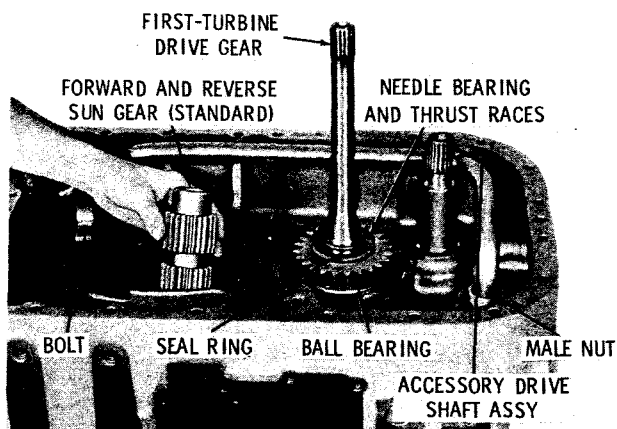

Fig. 5-16. Removing standard speed, forward- and reverse-range sun gear
(4) If the transmission is equipped to provide a standard speed low-gear ratio, remove the reverse-and-low-range sun gear as shown in figure 5-16. If the transmission is equipped with a high speed low-gear ratio, reverse-and-low-range sun gear 16 (A, foldout 5) cannot be removed as shown (fig. 5-16) but must be removed from the rear of the transmission; however, spacer 8 (A, foldout 5) is accessible and should be removed from the sun gear cavity. Refer to paragraph 5-9c(1) for removal of sun gear 16.
(5) Remove the needle roller bearing, two thrust races, and step-joint sealing from the first-turbine drive gear (fig. 5-16). Remove the first-turbine drive gear and ball bearing as an assembly. Do not remove the bearing unless replacement is necessary. If necessary, refer to paragraph 6-10 for rebuild instructions.
**b. Accessory Drive Shaft.** Remove the accessory drive shaft (fig. 5-16). Remove bearing 9 (B, foldout 3) from accessory drive shaft 8 only if replacement is necessary.
c. Oil Suction Tube. Using a 1-3/4-inch wrench, remove the male nut that retains the oil suction tube at the top of the housing (fig. 5-16). Also remove the self-locking bolt at the suction tube support. Remove the suction tube, and remove the male nut and compression sealring.